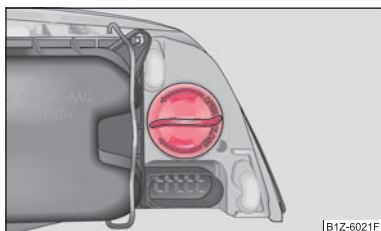

Fig. 151 Removing the light bulb for the turn signal light
- Turn the socket in the direction of arrow **OPEN** and take it out together with the light bulb for the turn signal light ⇒ fig. 151.